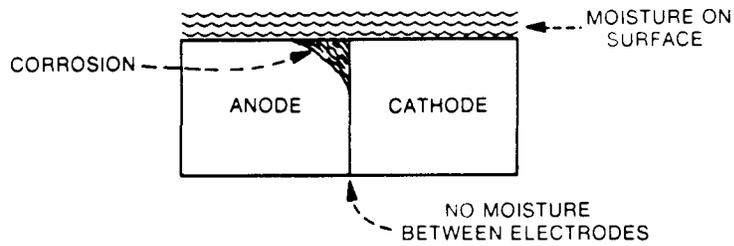

Figure 1-17. Galvanic action can occur if two dissimilar metals are joined and moisture is present on the surface.
- Figure 1-17 illustrates how corrosion can occur which can cause failure